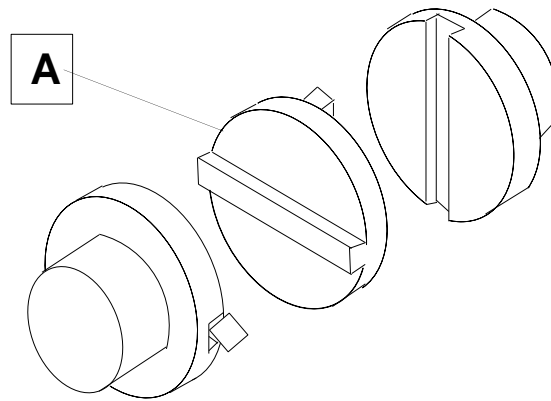

FIGURE 1
2.1.1 Name the coupling shown in FIGURE 1.